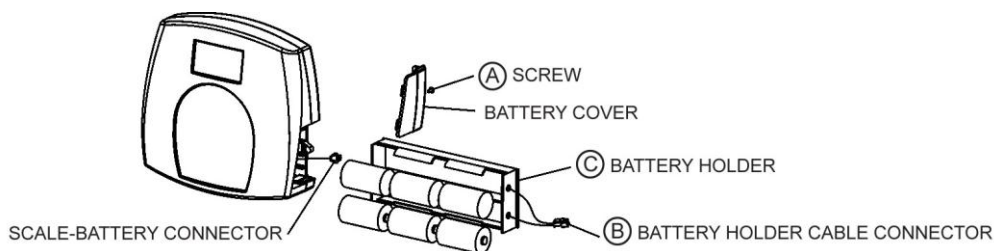

Figure 6 - Batteries
2. Place batteries in the battery holder (see "Replacing Batteries" information in Figure 6, below).
2. Remove the battery cover from the display assembly (A)--see Figure 6 on page 12.
3. Disconnect battery holder cable connector from the scale-battery connector (B).
4. Carefully remove the battery holder by sliding it out of the display assembly (C).